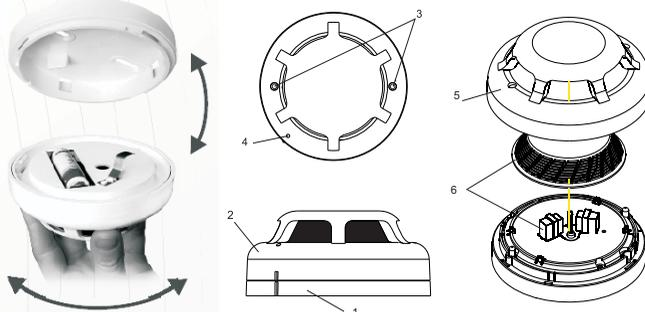

Fig.1
The fire detector consists of a printed board and an optical chamber (pos.6, fig.1), mounted into a plastic box (pos.5, fig.1). The fire detector is also equipped with micro key providing control over the removal of the detector from the base and the battery holder. The two LED indicators (pos.3, fig.1), one of them is two-color (red and green), and the other – one-color (red), allow 360° visibility and provide information about the operating modes of the detector:
Fire detectors of series VIT are to be used with base type FD100 (pos.1, fig.1).
2. Set the fire detector into "Duty" Mode, and its zone into "Test" Mode and from 20 cm distance influence on the detector by means of a smoke tester. For a period of time, not more than 10 s after the influence the detector should enter "Fire Condition" and LEDs on detector's body (fig.1 pos.3) will illuminate. Smoke concentration, the connection quality and the status can be monitored from the menu of the Fire Control Panel.
3. The panel automatically gives a command to detector for resetting and he must enter "Duty" Mode up to 1 minute. LEDs on the detector's body (pos.3, fig.1) must turn OFF.